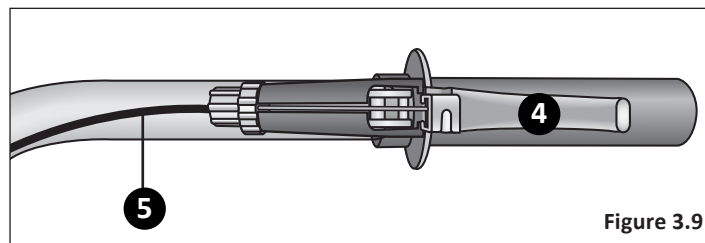

Figure 3.9
- 4 Release the brake lever. **Figure 3.9**